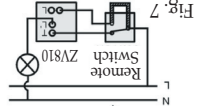

Fig. 7
- To replace a 2 way switch please refer to Fig. 7 for wire a link to the remote switch.